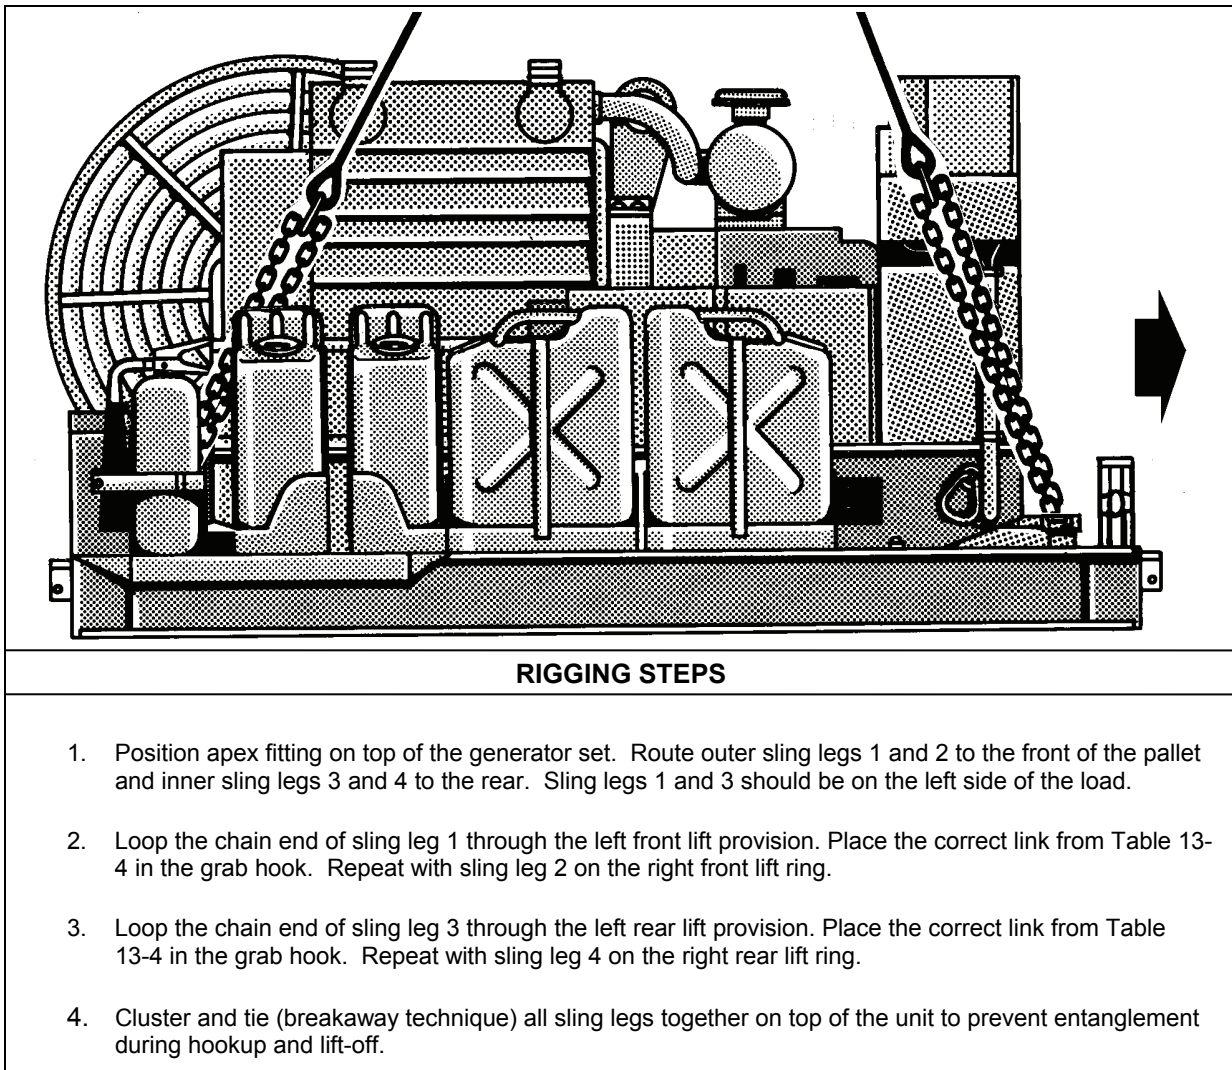

Figure 13-4. MEP112A Generator Pallet
- **Rigging.** Rig the load according to the steps in Figure 13-4.